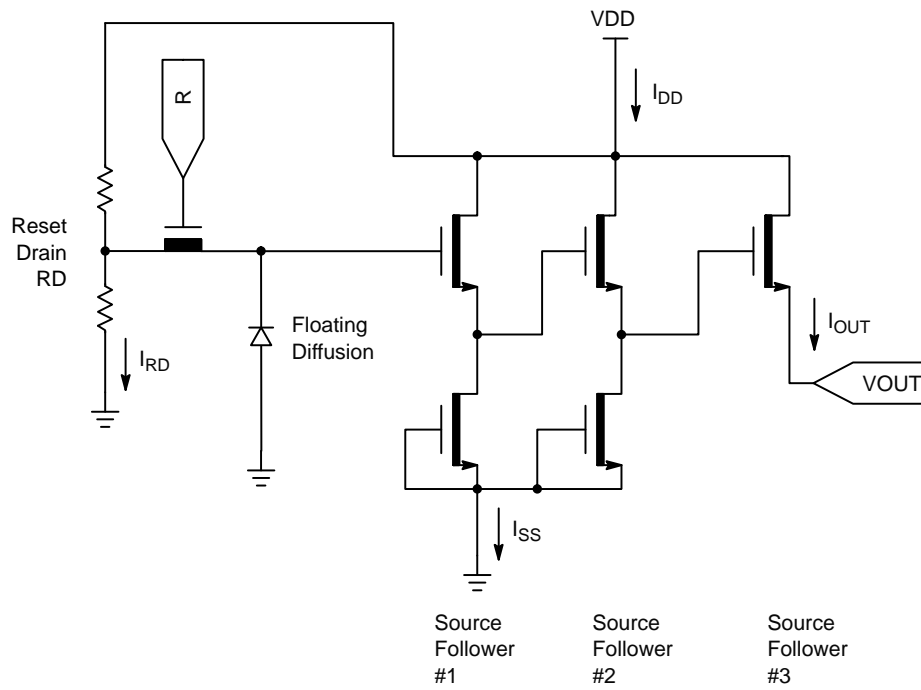

Figure 13. Output Amplifier
15. Each output. See Figure 13. Note that the current bias affects the amplifier bandwidth.
18. The maximum DC current is for one output unloaded and is shown as I_{RD} + I_{SS} in Figure 13. This is the maximum current that the first two stages of one output amplifier plus the reset drain bias circuit will draw. This value is with V_{OUT} disconnected.